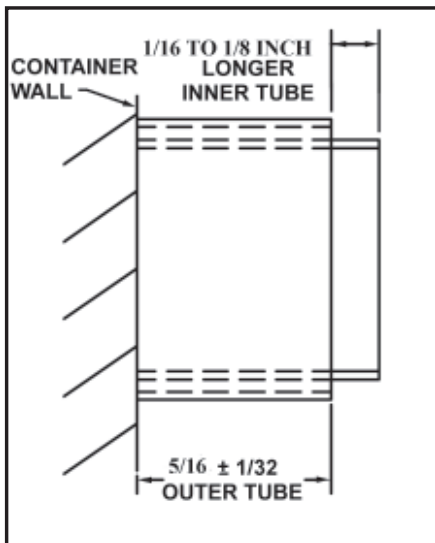

Figure 10 - Inner and Outer Tubes
7. Install the inner tube on the lock case. Feed the cables through the outer tube and install the outer tube on the lock case. Measure and mark the inner tube to be 1/16 to 1/8 inch longer than the outer tube. (See Figure 10.) Remove the inner tube and cut by the same method as described in Step 5.
Note: *Make sure the tubes are projecting through the container as shown in Figure 10. If not, the tubes are not seated properly in the lock or they were not cut to the proper length. Correct the problem before proceeding.*